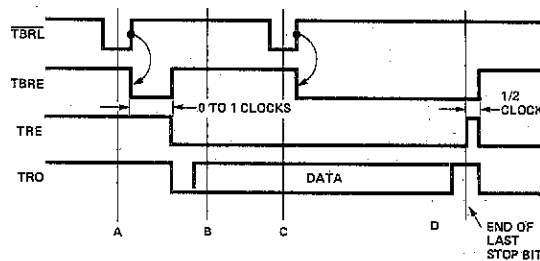

FIGURE 7. Transmitter Timing (Not to Scale)
Transmitter timing is shown in Figure 7. ① Data is loaded into the transmitter buffer register from the inputs TBR1 through TBR8 by a logic low on the TBRLoad input. Valid data must be present at least  $t_{DS}$  prior to and  $t_{DH}$  following the rising edge of TBR1. If words less than 8 bits are used, only the least significant bits are used. The character is right justified into the least significant bit, TBR1. ② The rising edge of TBR1 clears TBREEmpty, 0 to 1 clock cycles later, data is transferred to the transmitter register, TREEmpty is cleared and transmission starts. TBREEmpty is reset to a logic high. Output data is clocked by TRClock, which is 16 times the data rate. ③ A second pulse on TBRLoad loads data into the transmitter buffer register. Data transfer to the transmitter register is delayed until transmission of the current character is complete. ④ Data is automatically transferred to the transmitter register and transmission of that character begins.